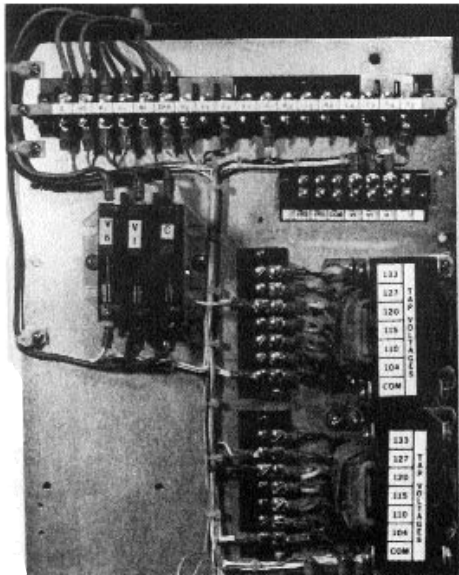

Figure 1-5
3. The knife switches on the back panel should be set with the V1 (potential switch) [and V6 if present] closed (pushed in), and the C (CT shorting switch) open (pulled out). See Figure 1-5.
4. Close the SOURCE-LOAD (SL) disconnect switch. (Delta applications only).
5. Close the SOURCE (S) disconnect switch.
9. Close the LOAD (L) disconnect switch.
3. The knife switches on the back panel should be set with the V1 (potential switch) [and V6 if present] open (pulled out), and the C (CT shorting switch) closed (pushed in). See Figure 1-5.
8. Close the SOURCE-LOAD (SL) disconnect switch. (Delta applications only).